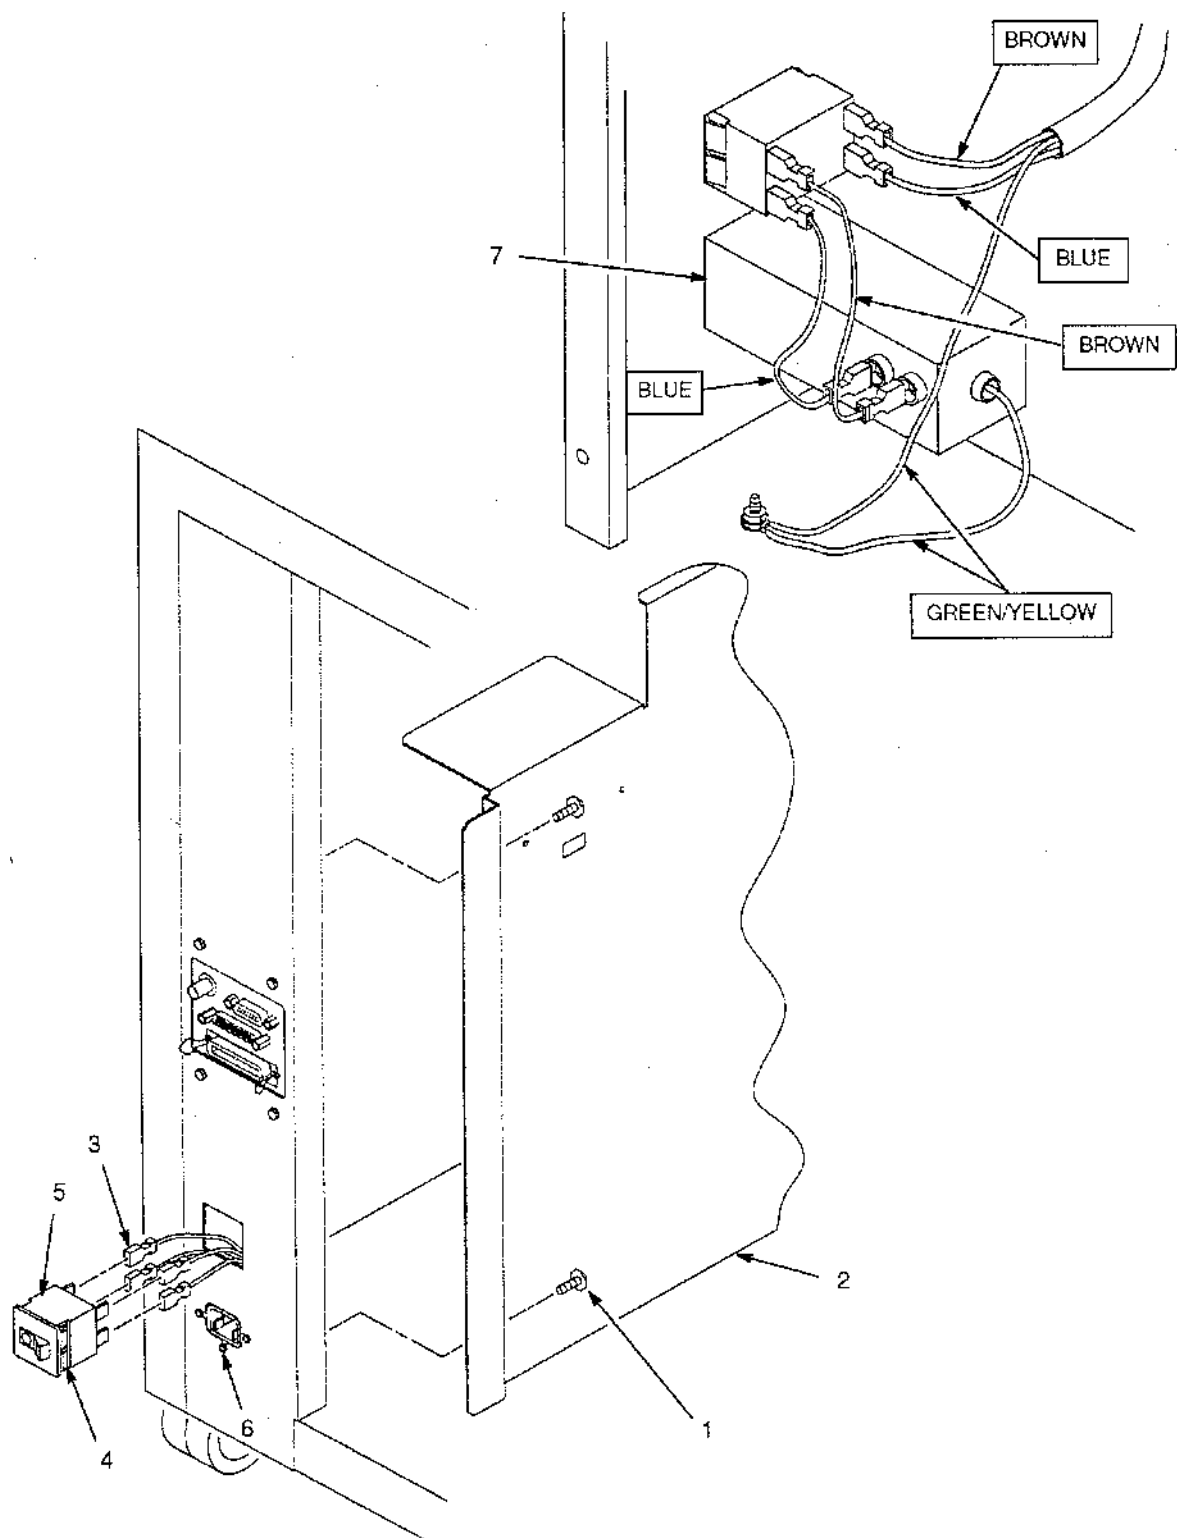

Figure 6-17. Circuit Breaker and Line Filter
| 3 | Ref | Electrical Lead (4) | See detail in Figure 6-17 for attachment |